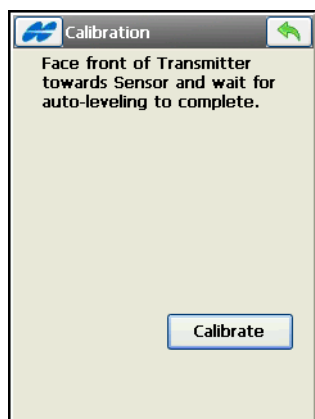

Figure 8-52. Calibrate
- **Next** – opens the *Calibrate* screen with instructions to follow (Figure 8-52).